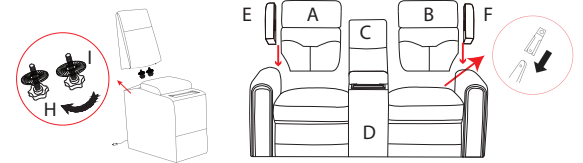

Figure 2
Attach the Console Back (C) to the Seat (D) by inserting the Knob Screws (H) and Washers (I) through the two holes on the top of the console base of the Seat (D) from underneath. Set the Console Back (C) on top of the console base, and rotate the Knob Screws (H) by hand clockwise until the Console Back (C) is tight. Attach the Backs (A B) to the Seat (D), Left Wing (E) to the Left Back (A), Right Wing (F) to the Right Back (B). Ensure the latches fit well. (See Figure 2.)